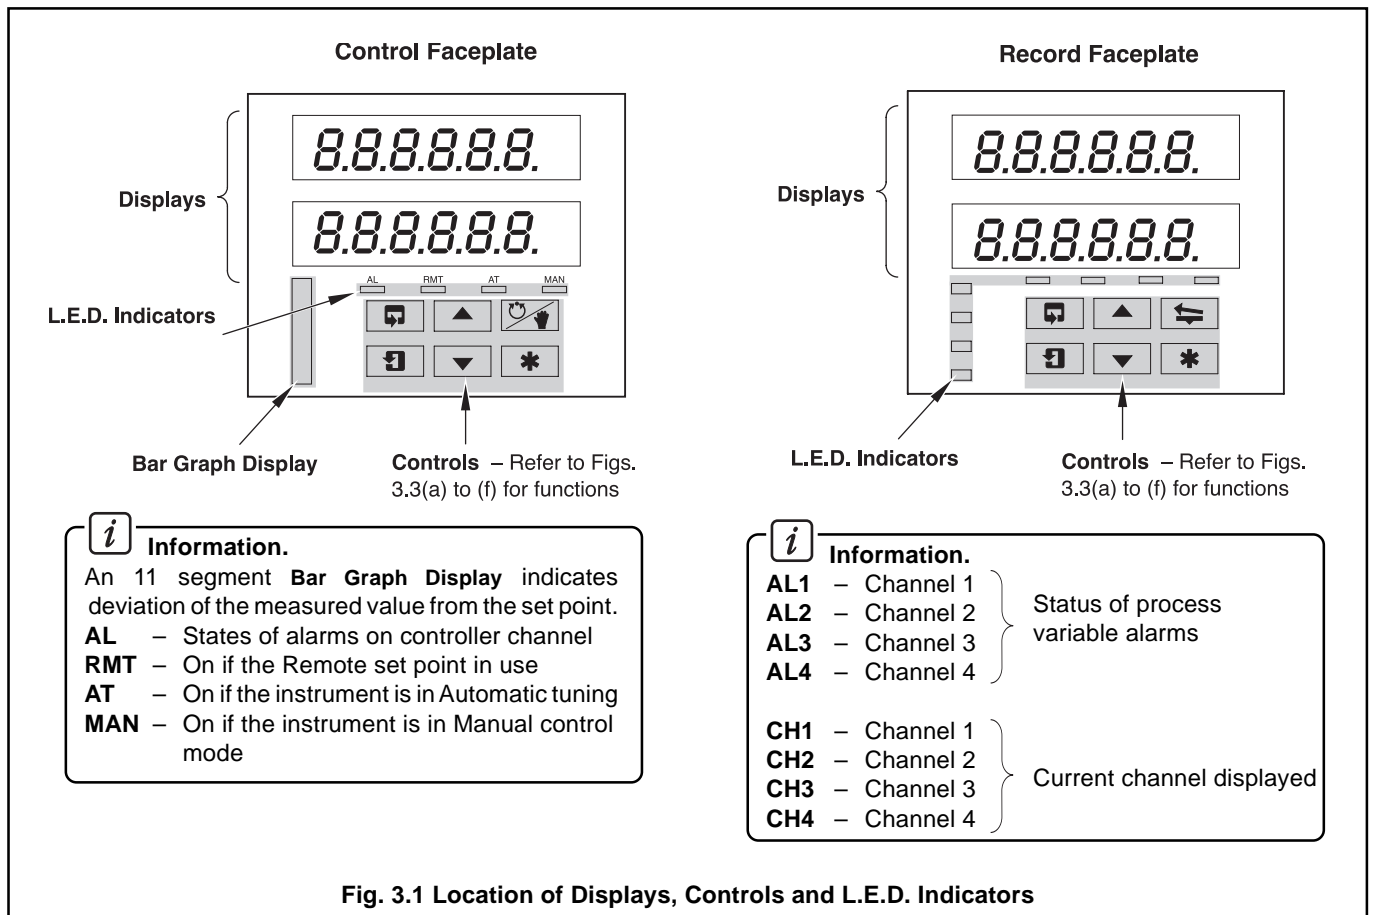

Fig. 3.1 Location of Displays, Controls and L.E.D. Indicators
The displays, i.e.d. indicators and operation/programming controls are located on the faceplates on the front panel of the instrument – see Fig 3.1.
3.1 Displays and L.E.D. Indicators – Fig. 3.1
Alarm and Channel states are indicated by separate i.e.d.s on the front panel faceplate(s) – see Fig. 3.1.